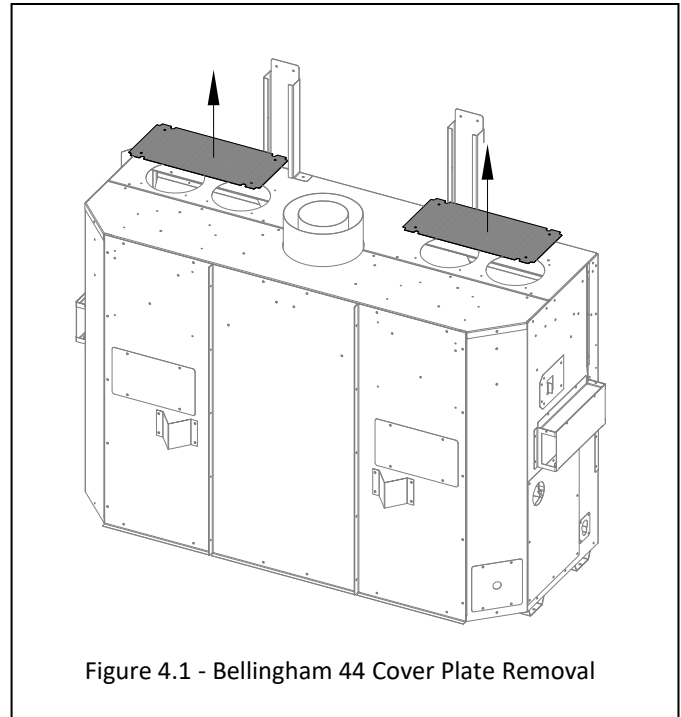
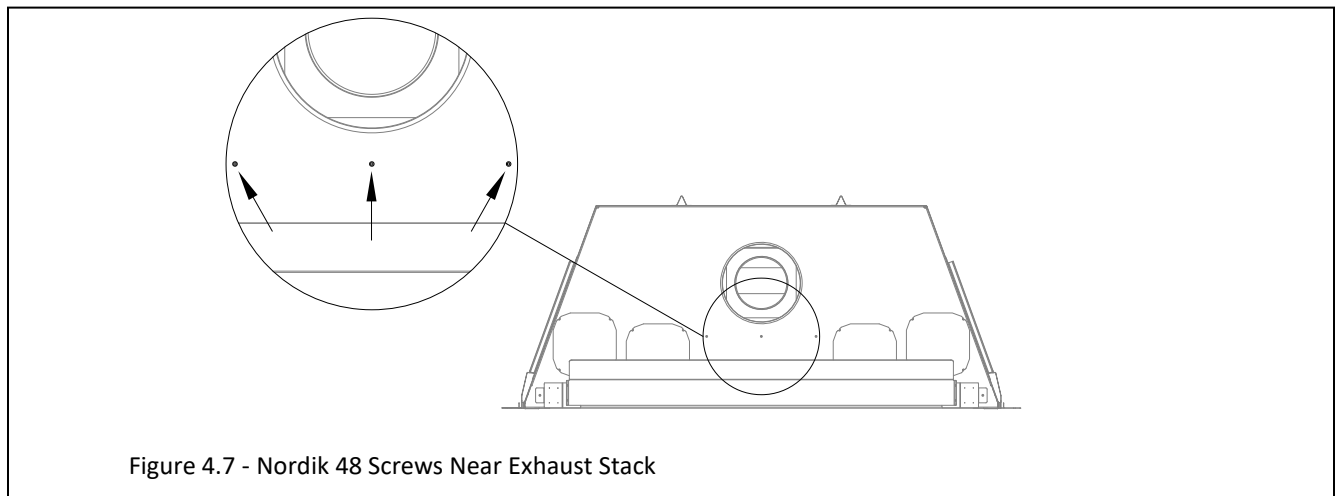

Figure 4.1 - Bellingham 44 Cover Plate Removal
Figure 4.7 - Nordik 48 Screws Near Exhaust Stack
1. Remove the convection baffle from the appliance. The baffle is secured by (4) screws right behind the upper edge of the fireplace opening. There is a small baffle clip in the center where you remove (2) screws and then the remaining (2) screws will involve (1) screw being on each side of the convection baffle. Recycle this panel as it is no longer needed. See Figure 4.1.
2. Remove (4) cover plates on top of the appliance (4 screws each).
3. Remove (3) sheet metal screws from the top of the assembly (see close up in Figure 4.7) and (2) sheet metal screws on the side of the assembly (one screw on each side shown in the second image of Figure 4.1). You are now able to separate the two sections of the top outer shell assembly. Remove and discard both the insulation and the bottom section of the top assembly.
4. Reinstall the top outer shell assembly on the appliance with the previously removed (13) sheet metal screws.